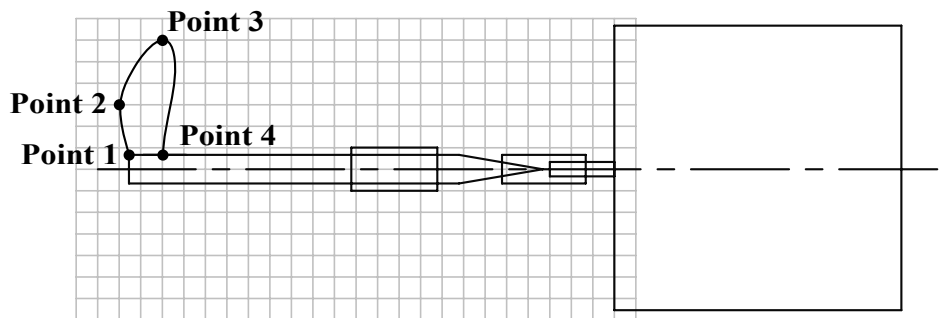

FIG. 8
Step 6. Click each Point in **Fig. 8**, then press **ENTER** three times.